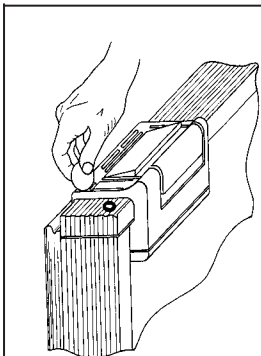

Fig. 1
- Keep the door/lid slightly open to air the fridge when leaving the boat for any length of time. (Fig. 1 and 2)
The Isotherm refrigeration systems have a fully hermetic closed cooling system and do not require any maintenance or refilling of refrigerant. The compressor is of domestic type and has a very high efficiency and an outstanding life-time. The fridge/box shall be left in the boat during the winter. (If the temperature is below freezing point, the compressor may not start). The maintenance is reduced to periodically, not less than a year, cleaning of the condenser from dust. Use a soft brush and no sharp tools. Keep the fridge/box inside clean. Use lukewarm water and a mild detergent for cleaning the inside. Put the door/lid, during not in operation periods, in its slightly open ventilation position. Release the catch on the door for this purpose with a coin or a small screwdriver. Take out the bulb from the internal light to avoid power consumption or switch off a main switch if there is one installed connected to the fridge power supply. (Fig. 1 and 2)